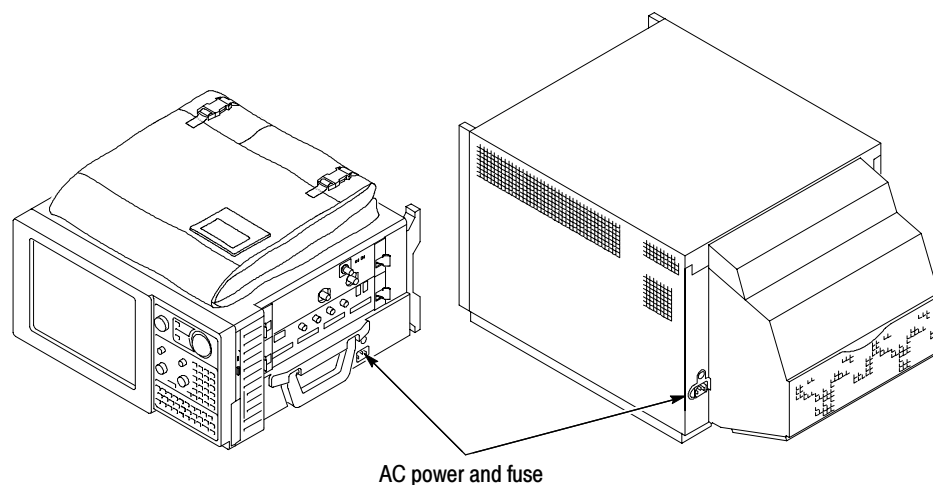

**Figure 1-15: Line fuse and power cord connector locations**
2. Connect the power cord. See Figure 1-15.